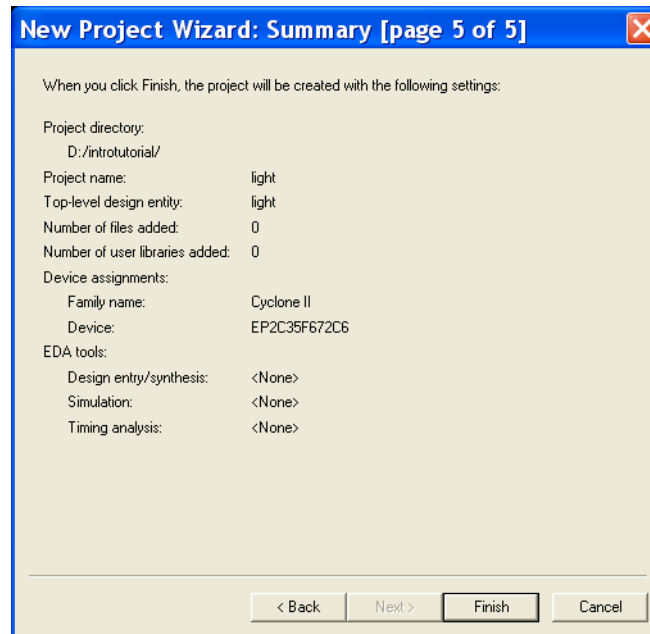
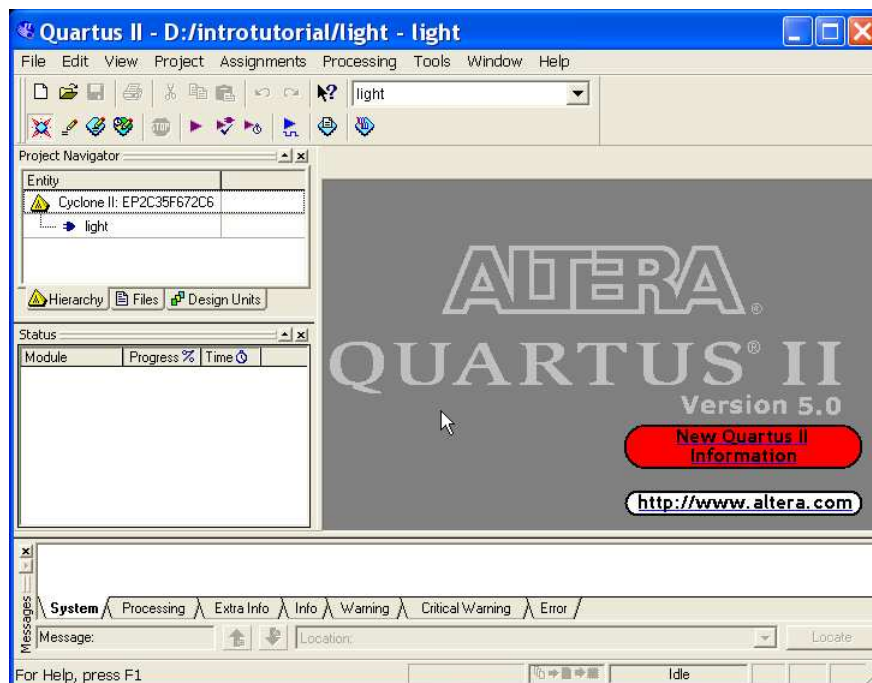

Figure 10. Summary of the project settings.
Figure 11. The Quartus II display for the created project.
6. A summary of the chosen settings appears in the screen shown in Figure 10. Press **Finish**, which returns to the main Quartus II window, but with *light* specified as the new project, in the display title bar, as indicated in Figure 11.